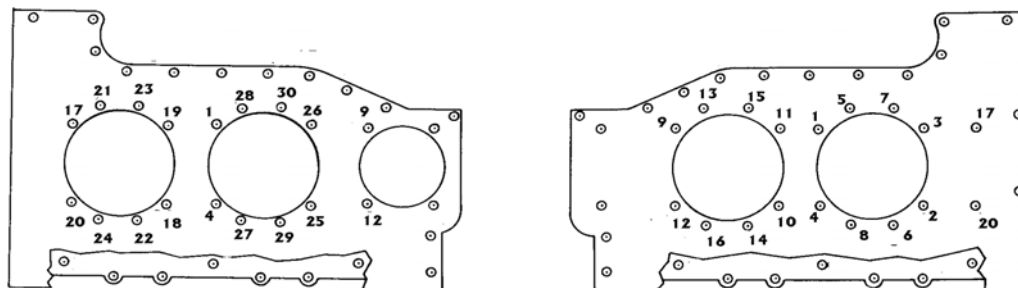

Figure 2. Intermediate Cylinder Installation Torquing
7. Torque the 7/16-20 cylinder deck stud nuts and the 1/2-20 through bolt nuts to 490–510 inch lbs. in the sequence shown in Figure 2, “Intermediate Cylinder Installation Torquing”.